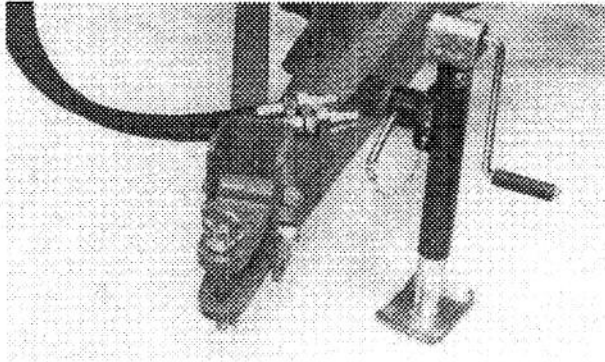

Figure 3
2. Raise front of frame and slide jack onto mounting tube aligning mounting holes in jack with holes in mounting tube. Secure with pin. (Fig. 3).